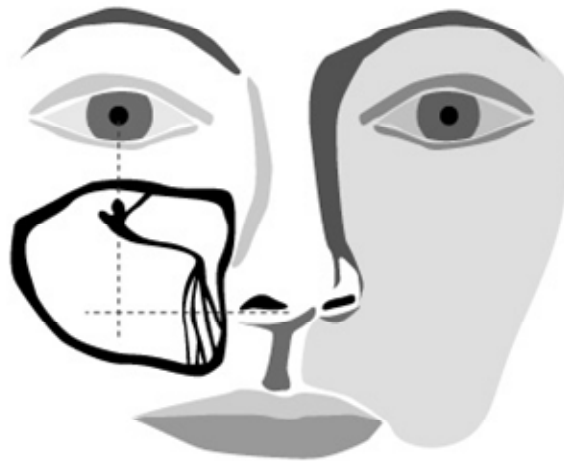

Figure 7 –Target Access Site Location
- c. After accessing gingival tissue, position Micro-Trocar tip on bony surface at the intersection location described in Figure 7.